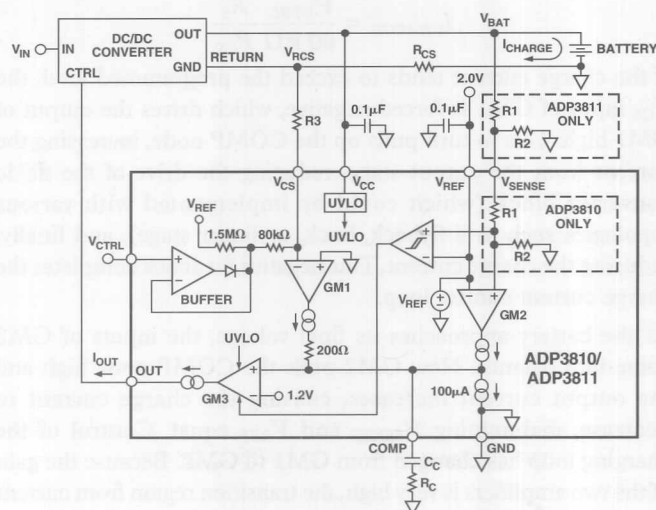

Figure 1. Block diagram of the ADP3810/3811 in a simplified battery-charging circuit.
**The ADP3810 and ADP3811:** Figure 1 shows the functional diagram for the ADP3810/3811 in a simplified CCCV charger circuit. Two " $g_m$ " amplifiers (voltage input, current output) are key to the IC's performance. GM1 senses and controls the charge current via shunt resistance,  $R_{CS}$ , and GM2 senses and controls the final battery voltage. Their outputs are connected in an analog "OR" configuration, and both are designed such that their outputs can only pull up the common COMP node. Thus, either the current amplifier or the voltage amplifier is in control of the charging loop at any given time. The COMP node is buffered by a " $g_m$ " output stage (GM3), the output current of which directly drives the dc-dc converter control input (via an opto-coupler in isolated applications).